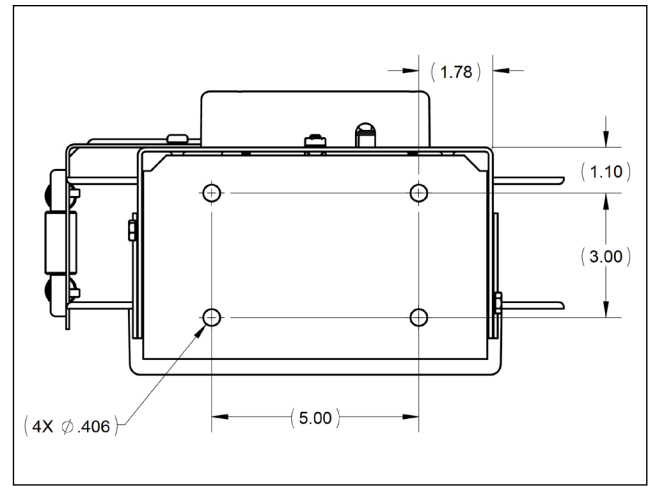

Figure 5 Underside of Mounting Base
1. Unbolt the base hardware and remove the mounting base from the frame of the cord reel. See Figure 5.